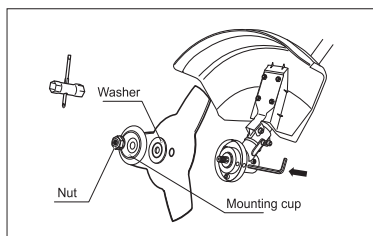

fig. 7
1. Align the hole of the flange washer with the hole of the gear cup (fig. 7).
9. While holding the locking rod with one hand, tighten the nut securely with a tubular key (supplied), turning it counterclockwise (fig. 7).